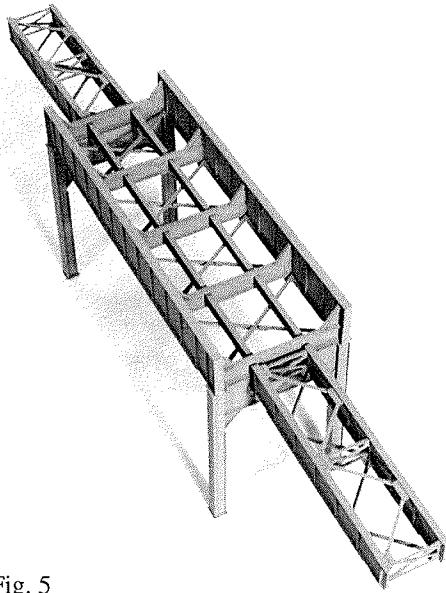

Fig. 5
4. Hold a 50' lateral bracing (6) on edge with the rivet detail to the outside of the bridge and match the notches in the rivet plates with the appropriate **vertical angles** along the bottom edge of one of the **girders**. Cement the **lateral bracing** against the inside edge of the **girder flange** holding it square to the **girder** while the cement dries. Rotate the assembly so the **lateral bracing** is flat on the work surface and the **girder** is vertical. Hold the second 50' **girder** on edge, aligned as described in step 2, with the **inside face** toward the **lateral bracing**, and cement the **girder** to the lateral bracing rivet plates. Be sure the rivet plates are against the inside edge of the **girder flange** and the **girder** is square to the assembly (see fig. 5).